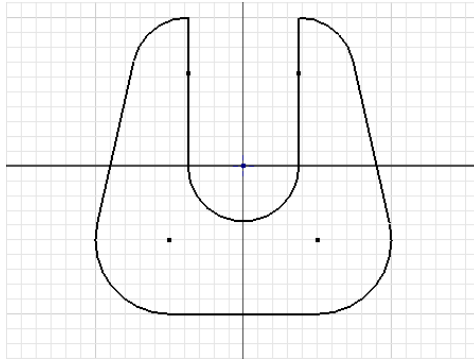

Figure 3-28 The sketch after applying all constraints
11. Select the center point of arc 6; the entire sketch moves to make the origin coincident with the center point of the arc. The sketch after applying all the constraints is shown in Figure 3-28.